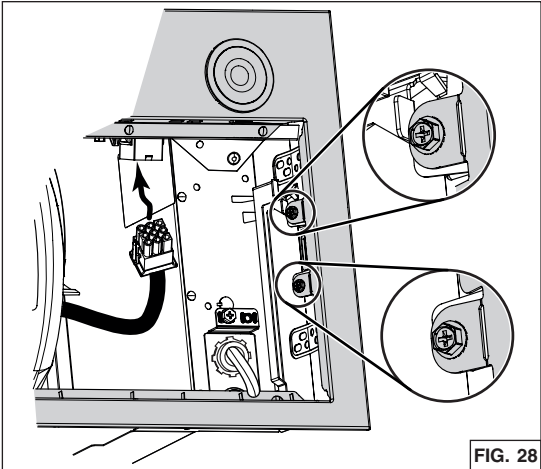

FIG. 28
6. Reinstall and secure the faceplate on the unit by securing the faceplate to the unit using its 4 retaining screws (two per side, circled in FIG. 28). Plug the blower cable to its connector on faceplate (FIG. 28).